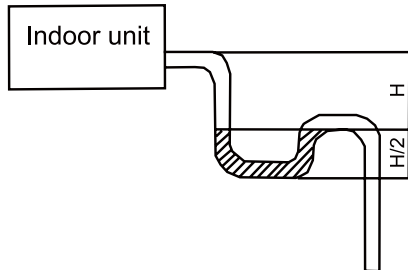

Figure 3-1-52
(5). If the air flow of indoor unit is high, this might cause negative pressure and result in return suction of outdoor air. Therefore, U-type water trap shall be designed on the drainage side of each indoor unit. (Figure 3-1-52)